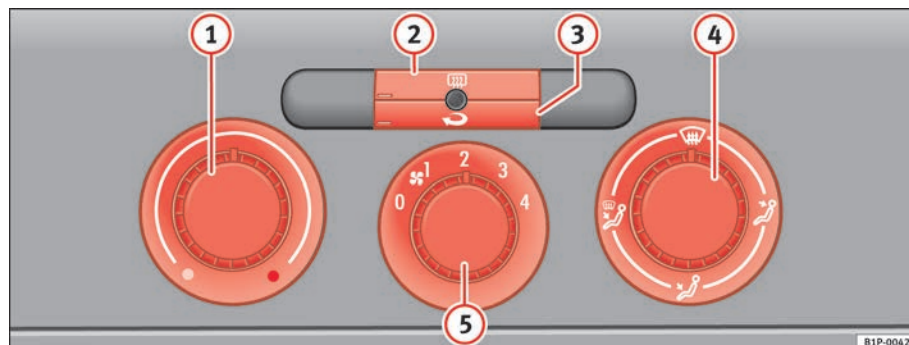

Fig. 107 On the dash panel: Heater controls
- Using the controls ⇒ fig. 107 ① and ④ and the control ⑤ you can set the temperature, air distribution and the turbine speed.
- To switch a function on or off, press the appropriate button ② or ③. When the function is activated, the display window in the lower left of the button is lit.